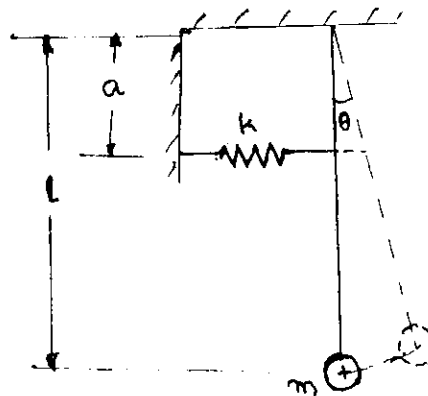

Fig.Q.2(b)
- b. Find the natural frequency of the spring controlled simple pendulum shown in Fig.Q.2(b).
- c. For the system shown in Fig.Q.2(c) find mass m if the system has a natural frequency of 10Hz.